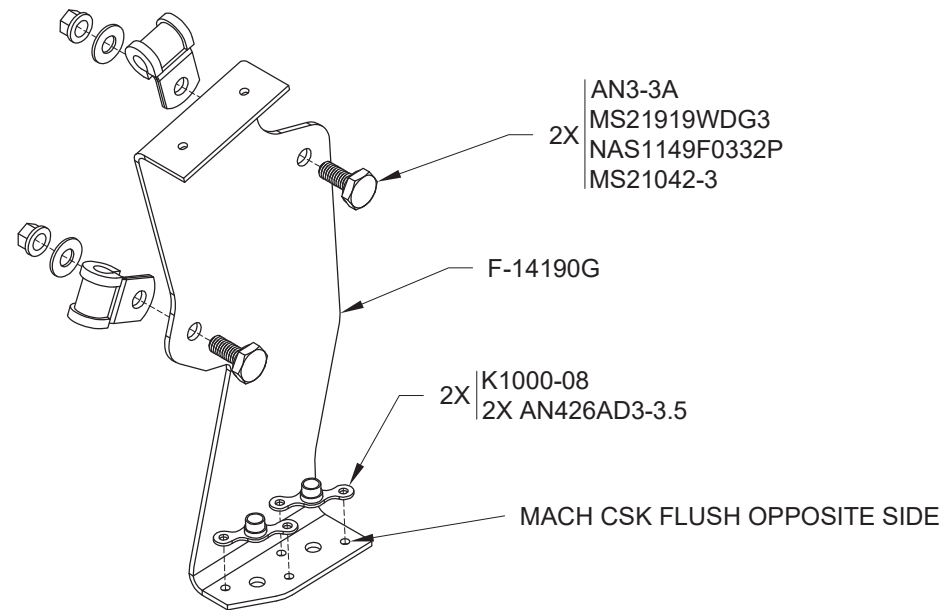

FIGURE 1A: CABLE SUPPORT ASSEMBLY
Step 1: Assemble the F-14190G Cable Support and hardware as shown in Figure 1A. Do not fully tighten the nuts at this time.